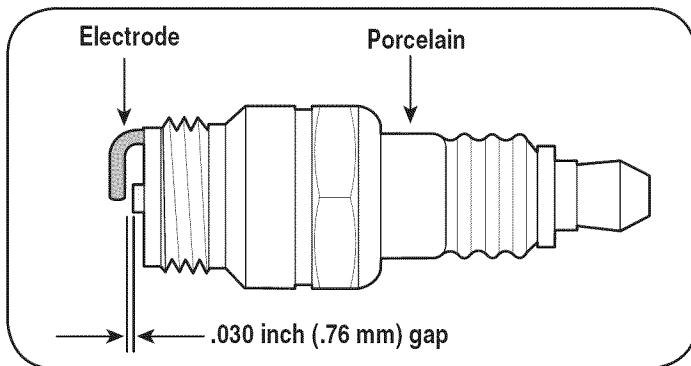

Figure 15
- Remove and inspect the spark plug. Check gap to make sure it is set at .030". See Figure 15.